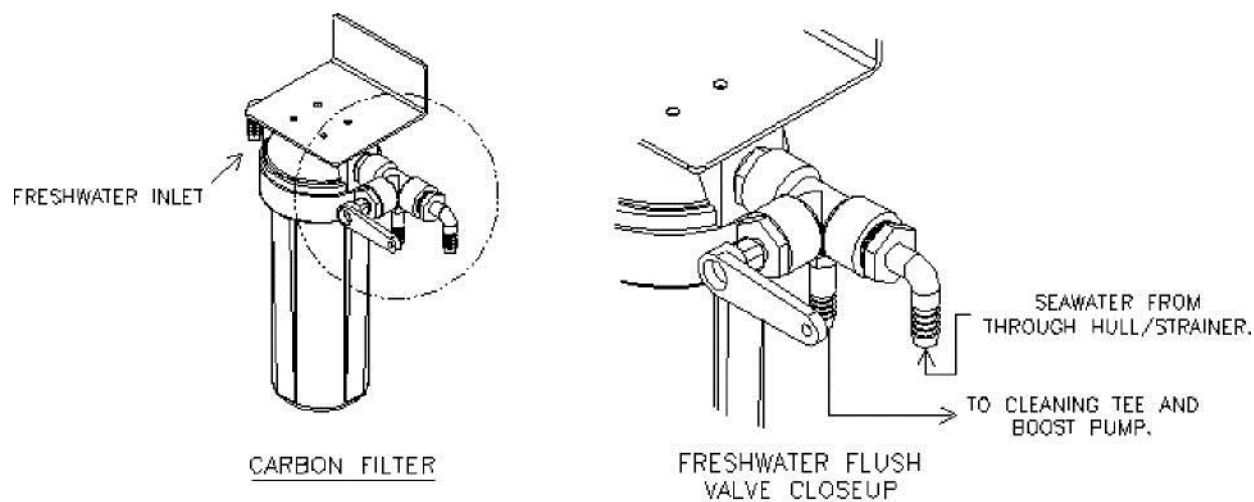

Figure 1.2: Carbon Filter with Freshwater Flush Valve – Isometric Views.
- Step 2: Mount the three-way manual Freshwater Flush Valve (attached to Carbon Filter Housing) **BELOW** waterline. Refer to Figure 1.2 for a view of the carbon filter and freshwater flush valve.